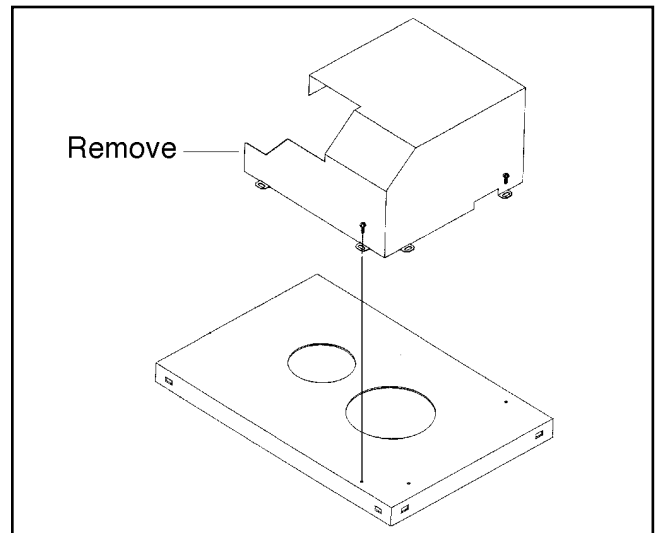

Figure 3.
3. Lift the sander upright and **remove the cover.** **Figure 3.**